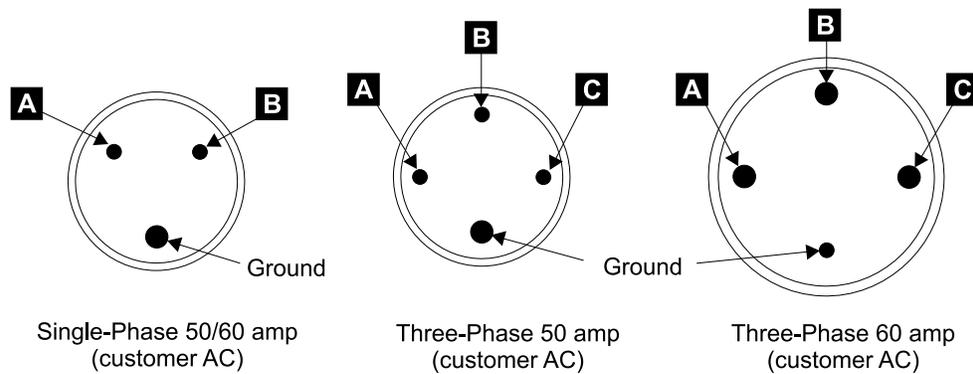

Figure 228. Single Phase Female Connector on the Mainline Power Cable and Customer AC (S008048I)
- For single-phase AC see Table 9 and Figure 228 on page 222.
- For three-phase AC see Table 10 and Figure 228 on page 222.